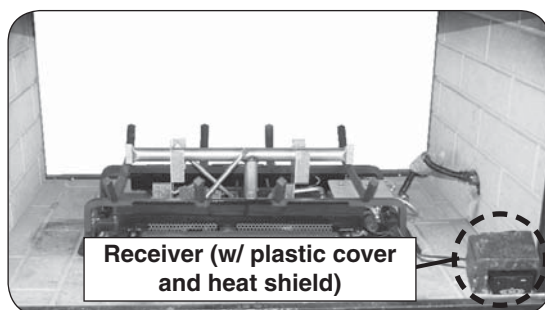

Fig. 14-4 Place remote receiver
3. **Place the remote receiver at the front right corner of the fireplace.** Place as far from the burner system as possible. See Fig. 14-4.
4. Place the plastic cover over the remote receiver with the open side facing forward to allow access to the receiver controls. Then place the decorative heat shield. See Fig. 14-4.